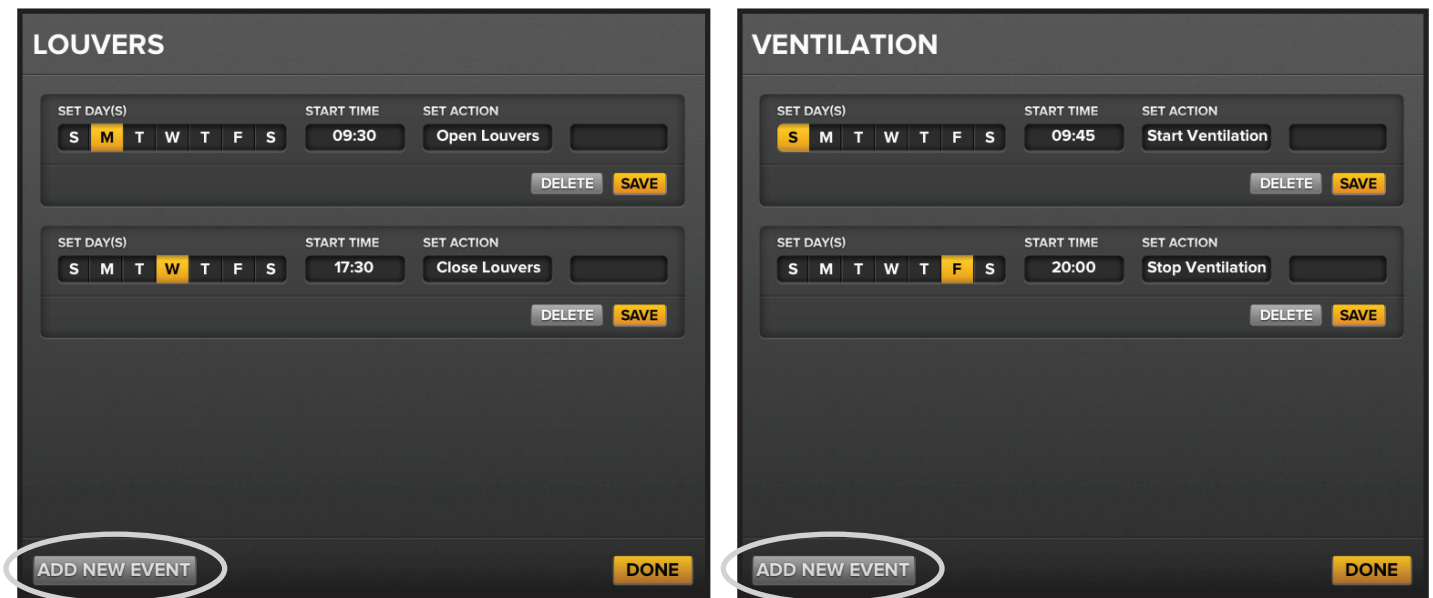

Figure 4–Louver and vent scheduling pages
3. Next to Schedule Changes, touch **Edit**. The scheduling page appears (Figure 4).
4. If necessary, at the bottom of the scheduling page, touch **Add New Event** (Figure 4).